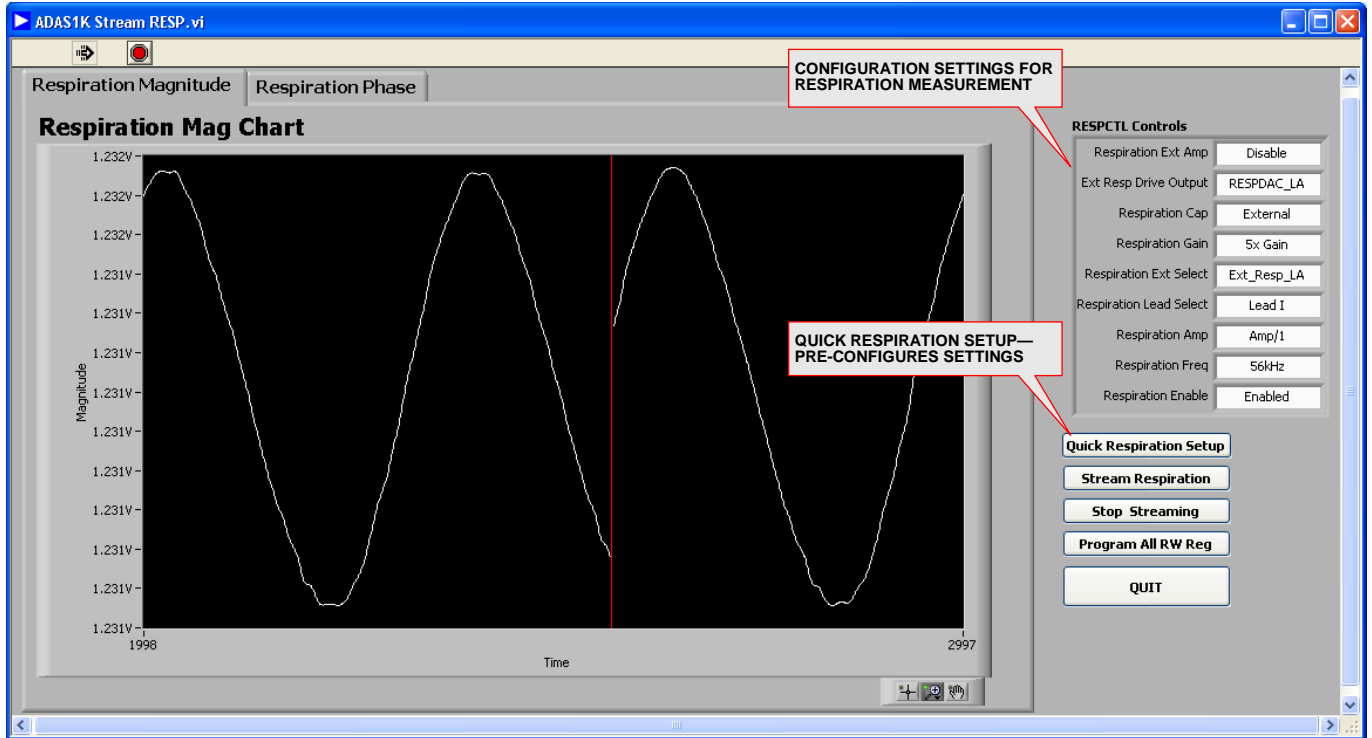

Figure 20. Respiration Magnitude Chart
1. Use **Quick Respiration Setup** to quickly configure the device. Figure 20 shows the respiration signal capturing a respiration signal provided by the Fluke PS420.
2. Configure the settings in the respiration register for many different options. See Figure 20 and see the Flexible Respiration Feature on Master ADAS1000 section for a description.